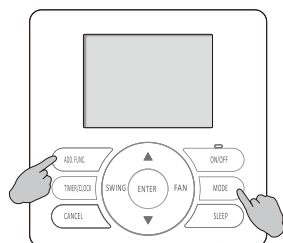

fig.1
1. Hold down Mode button and ADD. FUNC. button for 3s simultaneously to enter parameters customer-reading state, and then customer-reading parameter codes will display in the temperature display area. (See fig.1)